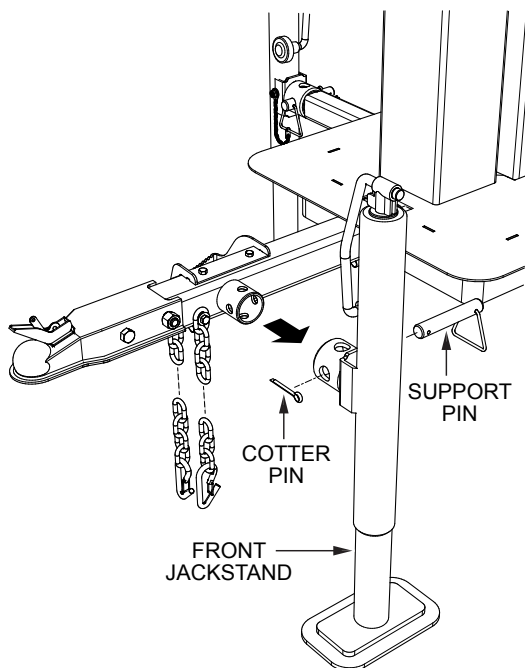

Figure 4. Front Jack Stand Removal
2. Once the tow end of the light tower has been supported by the left and right outrigger jack stands, remove the **cotter pin** as shown in Figure 4.
3. Remove the locking pin (Figure 4) from the jack stand support hub, Set locking and cotter pins aside.